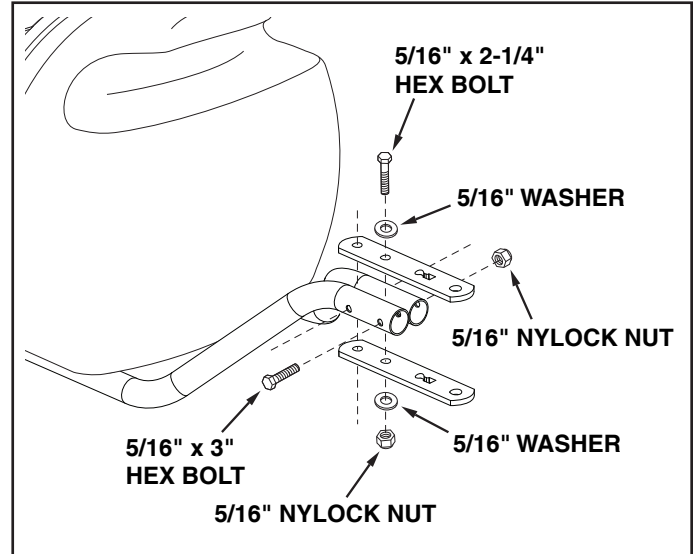

FIGURE 3
5. Fasten the front ends of the frame tubes together using two 5/16" x 3" hex bolts and 5/16" nylock nuts. **Do not tighten yet.** See figure 3.
6. Assemble hitch brackets to frame tubes using two 5/16" x 2-1/4" hex bolts, four washers (one on each side) and 5/16" nylock nuts. Position each bolt behind a cross bolt in the hitch arms. **Do not tighten yet.** See figure 3.
7. **Tighten** bolts assembled in step 7 then **tighten** bolts assembled in step 8. See figure 3.